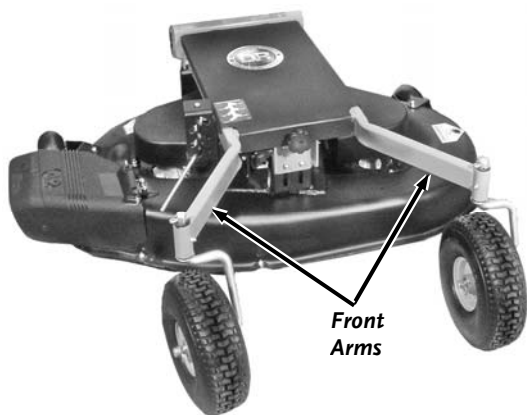

Figure 3
**NOTE:** The Caster Wheels mount on the Front Arms of the Deck Frame (Figure 3).